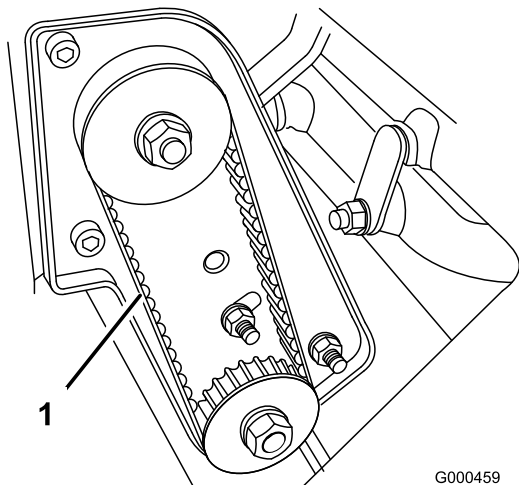

Figure 37
2. Check tension by depressing belt (Figure 37) at mid span of pulleys with 4 ± 1 lb. of force. Belt should deflect $3/16$ to $5/16$ inch (4.8 to 7.9 mm). If the deflection is incorrect, proceed to next step.